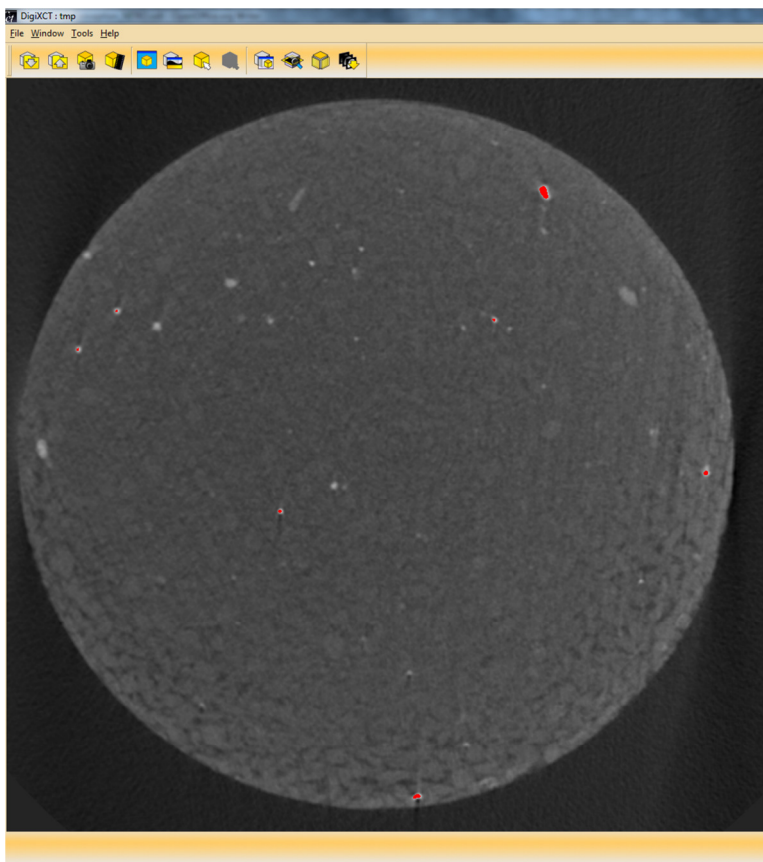

Figure 3.54: High density material segmentation
- Than modifying the threshold value will paint pixels associated to high density value in red (see figure 3.54).